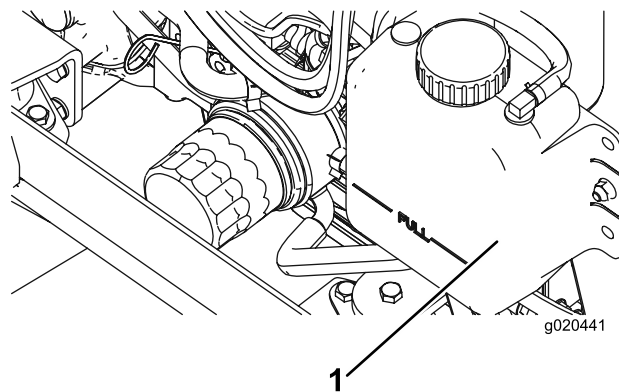

Figure 88
1. Carefully remove the radiator cap and expansion-tank cap (Figure 88).